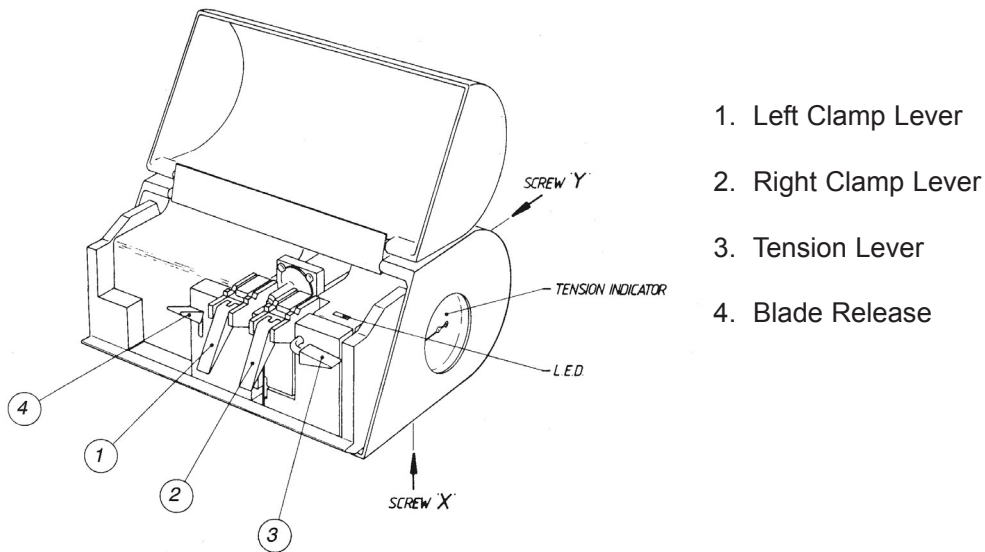
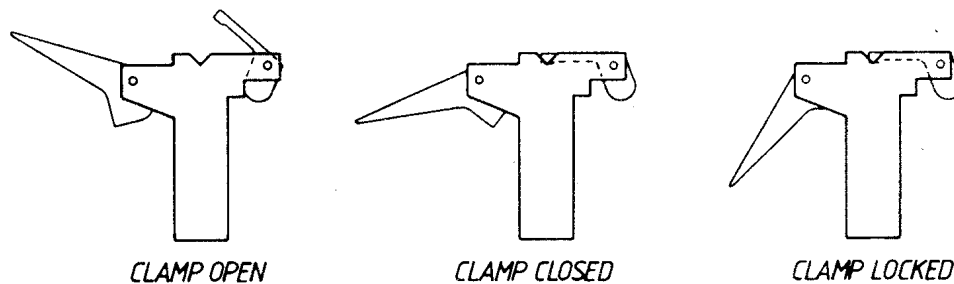

Figure 2: FK11, FK11-4, FK11-LDF Fiber Cleaver.
Figure 3: Clamp Lever Positions
WARNING: SET THE BLADE RELEASE LEVER (#1 IN FIG. 2) TO THE LOCKED (UP) POSITION (SHOWN IN FIGURE 1). ALWAYS LEAVE THIS LEVER IN THE LOCK POSITION WHEN THE FK11 IS NOT BEING USED.
5. Lower the Right Clamp Lever (number 2 in Figure 2) to the CLOSED position (see Figure 3). Lower the Left Clamp Lever (number 1 in Figure 2) to the LOCKED position, thus clamping the fiber. The Right Clamp Lever should now be pressed fully down to the LOCKED position, clamping the free end of the fiber.
6. Move the Tension Lever (number 3 in Figure 2) smoothly downward to the TENSION ON position (see Figure 4).
5. Gently lower each of the clamps to the CLOSED position (clamp lever positions are shown in Figure 3) to hold the fiber lightly.
11. Raise the Blade Release Lever to the LOCKED (UP) position. Open the left Clamp Lever and the middle Clamp Lever and remove the cleaved fiber. Return all levers to their START positions, ready for the next cleave. Remove the off-cut and dispose of it safely.
To change the setting, raise the Tension Levers to the TENSION OFF (UP) position, and using a 2 mm (1/16") screwdriver, turn the adjuster screw (screw x, shown in Figure 2) clockwise to increase the tension, or vice versa. This screw is accessible through the hole in the bottom of the case.
The diamond blade may become worn after many cleaves. When this occurs the blade should be raised to a new position. Using a 2 mm (1/16") hex wrench, turn the adjuster screw Y (shown in Figure 2) clockwise one quarter turn. This screw is accessible through the hole in the rear of the case. Proceed cautiously as the blade cannot be lowered once it has been raised.